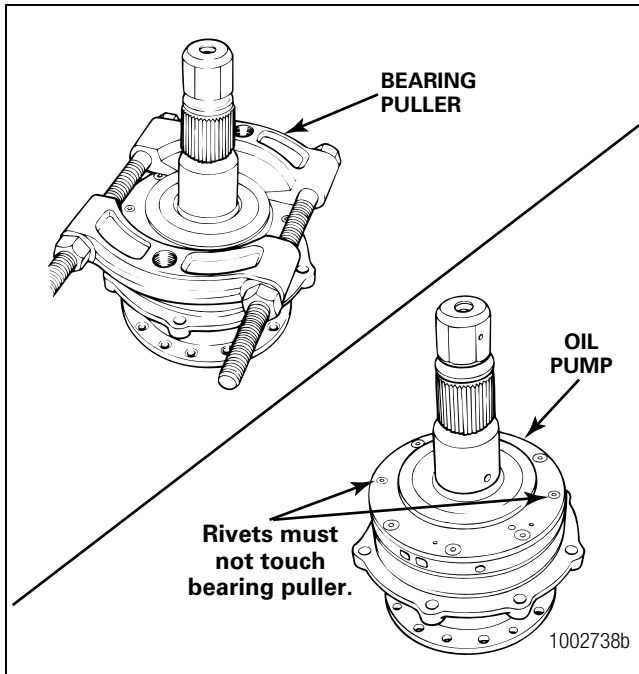

Figure 3.34
- A. Place a bearing puller under the oil pump. The rivets on the back of the pump must not touch the bearing puller. The bearing puller provides a level surface so that the shaft can be pressed straight out of the assembly. Figure 3.34.